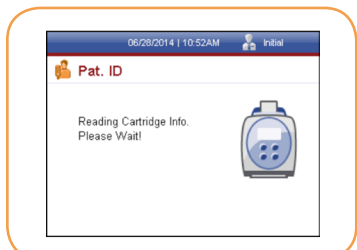

FIGURE 41
3. Close the drawer. A reading cartridge screen will be displayed (Figure 41).